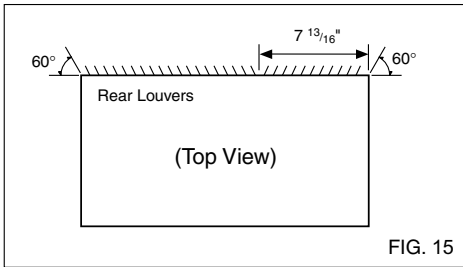

FIG. 15
- 7** Remove the backing from the support blocks and attach them to the inside of the wall sleeve as shown FIG 15. Slide the baffle into slots of the support blocks.